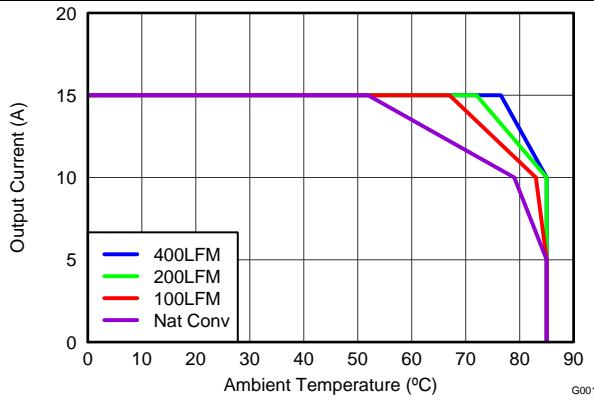

Figure 3. Safe Operating Area – PCB Horizontal Mount
$T_J = 125^{\circ}\text{C}$, unless stated otherwise. For Figure 3 and Figure 4, the Typical Power Block System Characteristic curves are based on measurements made on a PCB design with dimensions of 4 inches (W) \times 3.5 inches (L) \times 0.062 inch (H) and 6 copper layers of 1 oz. copper thickness. See Application and Implementation for detailed explanation.
$T_J = 125^\circ\text{C}$, unless stated otherwise. For Figure 3 and Figure 4, the Typical Power Block System Characteristic curves are based on measurements made on a PCB design with dimensions of 4 inches (W) \times 3.5 inches (L) \times 0.062 inch (H) and 6 copper layers of 1 oz. copper thickness. See Application and Implementation for detailed explanation.
The SOA curves in the CSD87381P data sheet provides guidance on the temperature boundaries within an operating system by incorporating the thermal resistance and system power loss. Figure 3 to Figure 4 outline the temperature and airflow conditions required for a given load current. The area under the curve dictates the safe operating area. All the curves are based on measurements made on a PCB design with dimensions of 4 inches (W) × 3.5 inches (L) × 0.062 inch (T) and 6 copper layers of 1 oz. copper thickness.